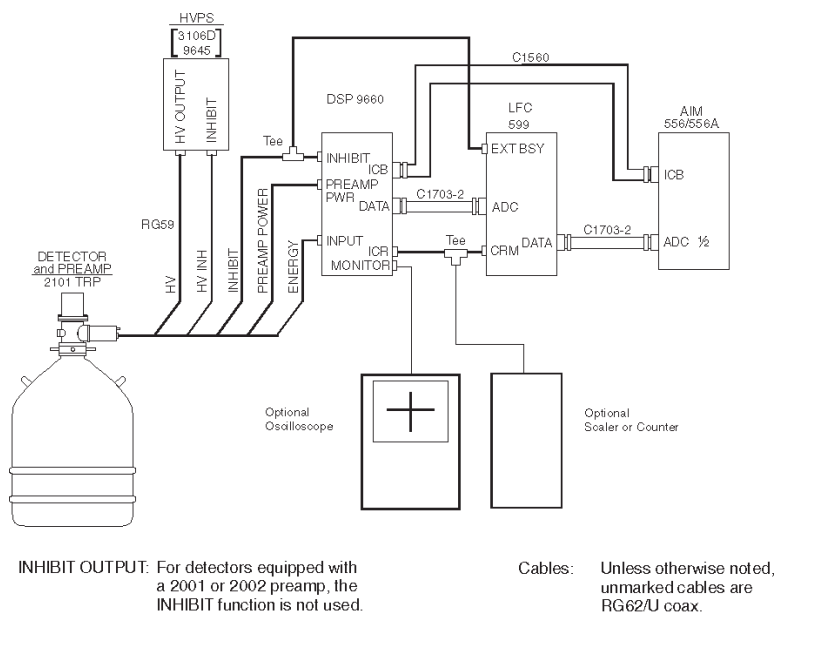

Figure 27 LFC System Setup
1. Connect the 9660 DSP, 599 LFC and 556/556A AIM as shown in Figure 27.